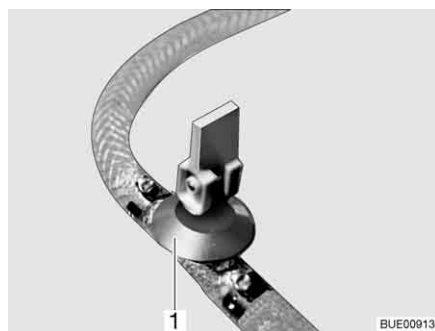

Fig. 168 Drain cock (with rocking lever)
- Open all drain cocks. In order to do this, position the rocking lever of the drain cock (Fig. 168,1) vertically.